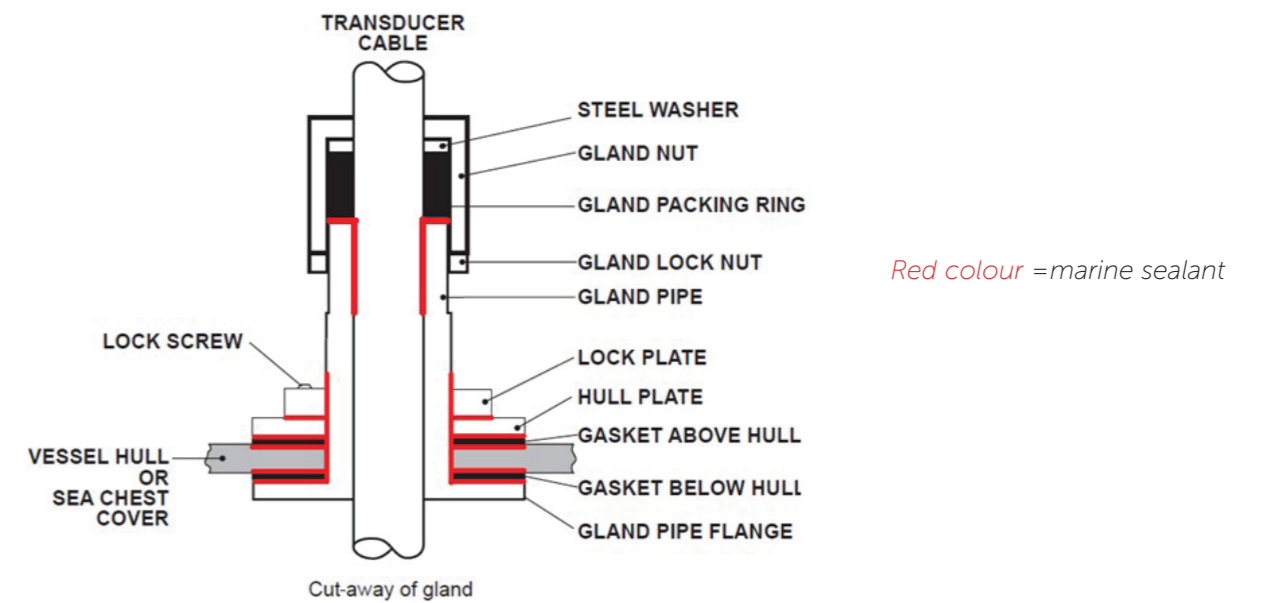

Figure 9. Mounting the Gland Assembly
- » Always use a good quality marine sealant to seal across the areas that can leak (See "Figure 9. Mounting the Gland Assembly" on page 25). Before applying marine sealant to the parts, make sure they are free from oil and water. Use general cleaning solvent to remove oil or grease if needed.